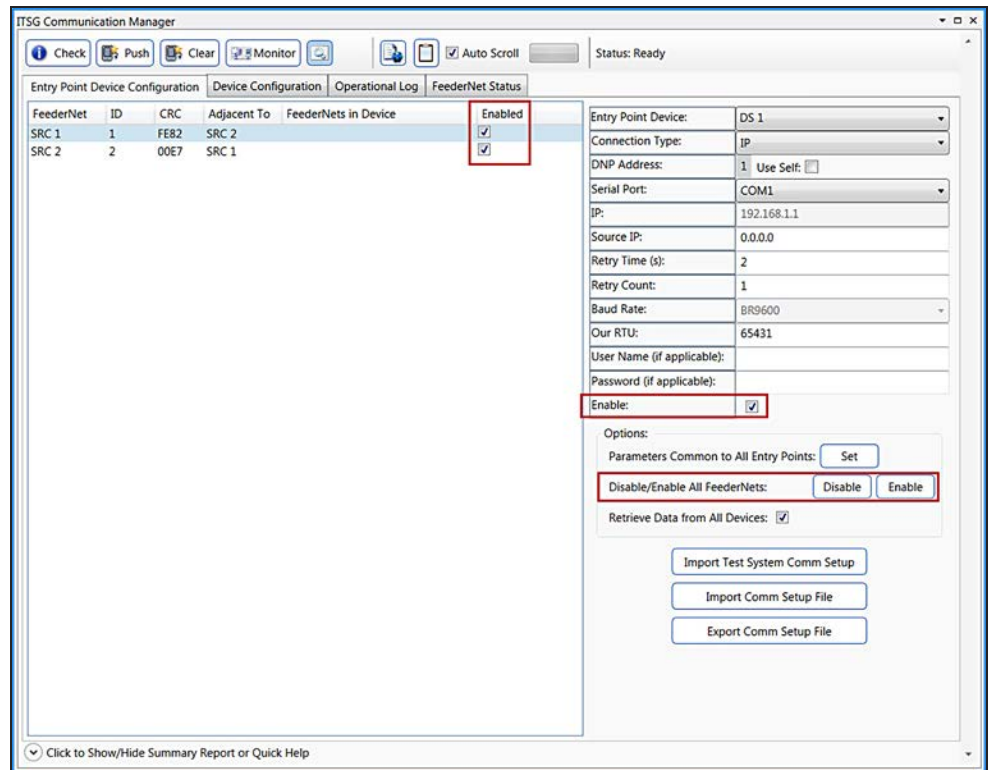

Figure 90. The options to enable FeederNets for propagation.
- STEP 2.** Select the FeederNets to be updated by checking one of the Enabled check boxes or clicking on the **Enable** button next to the **Disable/Enable All FeederNets** option in the **Entry Point Device Configuration** tab. See Figure 90 on page 97.
- STEP 1.** Click on the **Check** button to check the FeederNets loaded in the entry point devices. See Figure 90 on page 97 as an example of this output.